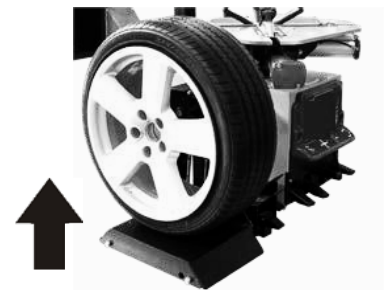

fig. 1
- Press the control pedal ref. 12 (fig. 1) to lift the wheel and position it onto clamping turntable.
- Release the control pedal ref. 12 to lower the wheel lifter.